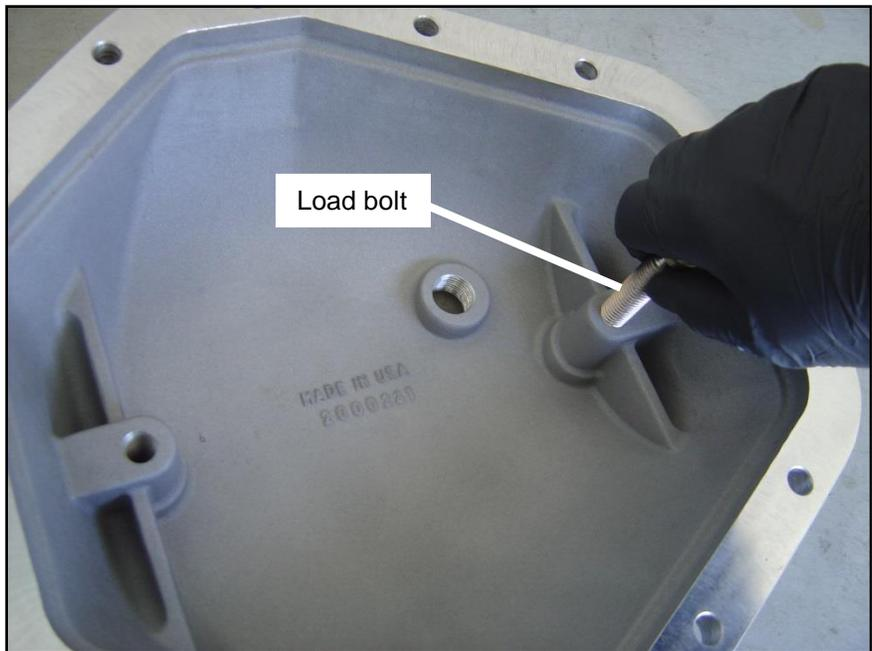

Figure 3
STEP 11. Install the supplied load bolts in each boss from the inside of the **B&M Cast Aluminum Rear End Cover** until they bottom out (**See Figure 3 & 4**).